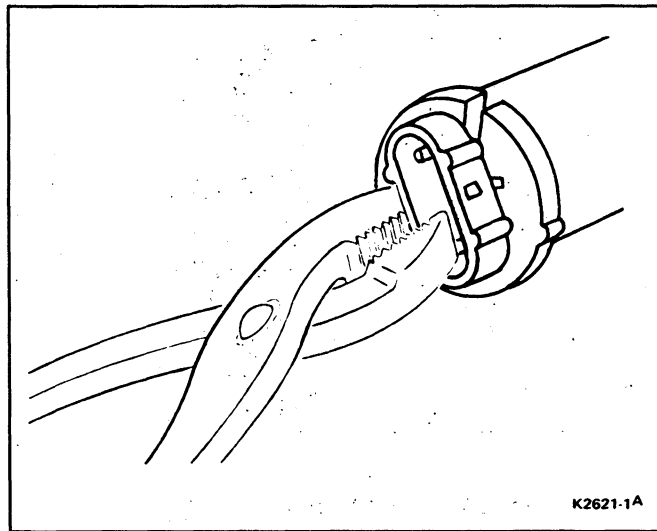

FIG. 3 Disassembling Motor, Seal and Impeller Assembly
3. Using pliers to grip one wall around the electrical terminals (Fig. 3), pull out the motor, seal and impeller assembly. If the impeller and seal come off when the motor is pulled, they can be reassembled. Make certain the reservoir pump chamber is free of foreign material prior to installing the old assembly in the new reservoir.